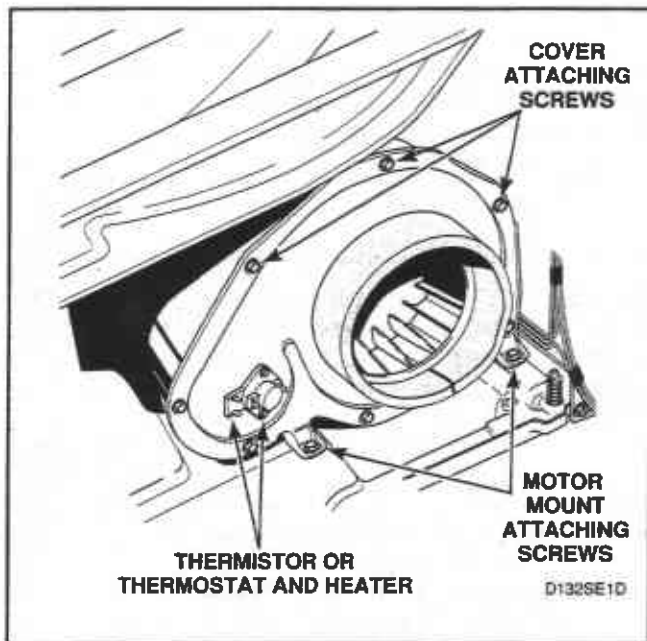
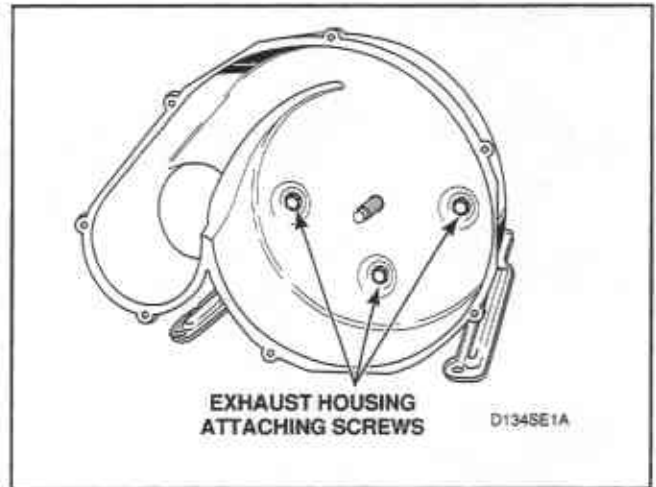

Figure 25
Figure 28
- Remove two screws holding motor mounting bracket to dryer base, *Figure 25*.
- (1) Remove screws holding cover to housing, *Figure 25*.
- (2) Hold motor pulley securely and unthread impeller from motor shaft (right hand thread). Use a 7/8 inch, 6 point socket to aid in the removal of the impeller.
- (3) Remove three screws holding the exhaust housing to the motor mounting bracket, *Figure 28*.